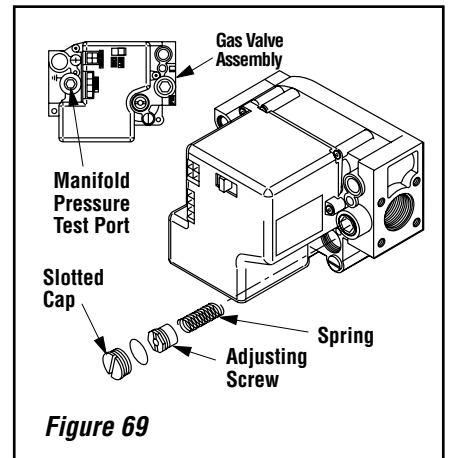

Figure 69
Step 7. Honeywell Electronic Valves - See **Figure 69** and the instructions provided with the kit. Remove the slotted cap screw, o-ring, pressure-regulating adjusting screw and spring. Retain all parts for possible later use. Install new components from the kit. Black cap and red spring for propane gas appliances. Silver cap and stainless steel spring for natural gas appliances. Before installing the cap, attach manometer to the manifold side pressure test fitting and adjust screw until pressure reads 3.5 inches water column (0.87 kPa) for natural gas, and 10.0 inches water column (2.49 kPa) for propane gas.